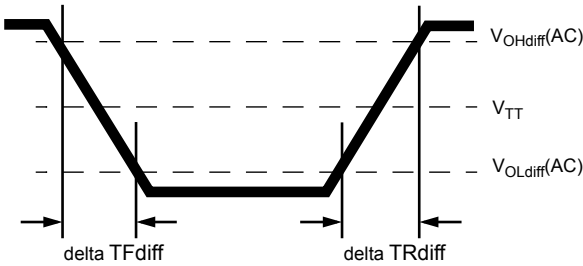

Figure 18. Differential Output Slew Rate Definition
With the reference load for timing measurements, output slew rate for falling and rising edges is defined and measured between VOLdiff(AC) and VOHdiff(AC) for differential signals as shown in Table 26 and Figure 18.
The reference load for ODT timings is defined in Figure 18.